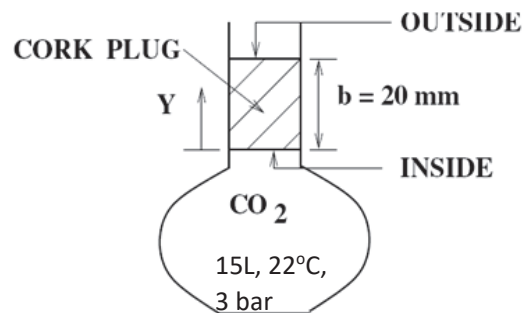

Figure 5 : CO_2 diffusion through cork plug
- (b). A 15 liter vessel contains CO_2 at 22°C and 3 bar as shown in Figure 5. The vessel is fitted with a 20 mm cork whose surface area is 300 mm^2 . It was given $D_{\text{CO}_2\text{-Cork}} = 1.1 \times 10^{-10}\text{ m}^2/\text{s}$ and solubility (S) of CO_2 in the plug = $0.04015\text{ kmol}/\text{m}^3\text{-bar}$. Determine the following;